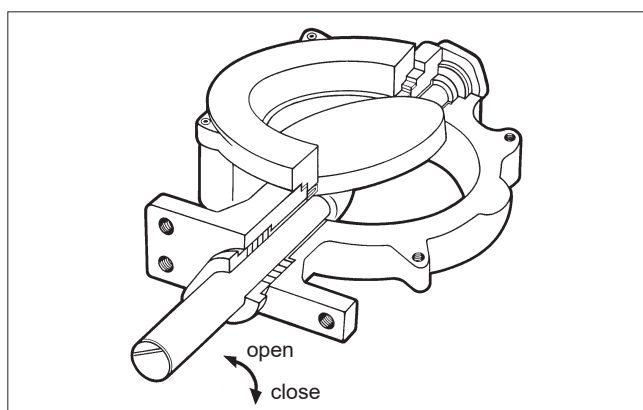

Fig. 13 The contact line between the disc and seat
- Centre the seat ring (4) carefully into its groove and turn the disc to maintain light contact with the seat.
- Mount the clamp ring and tighten the screws (27) lightly.
- Tighten the screws (27) evenly. An unevenly tightened flange may damage the seat ring.
- Check the position between the seat ring and the disc. The valve closes clockwise (see Fig. 13).
- Press the shafts into the disc drillings. Align the pin holes. The shaft (11) position against the disc must be according to Fig. 13